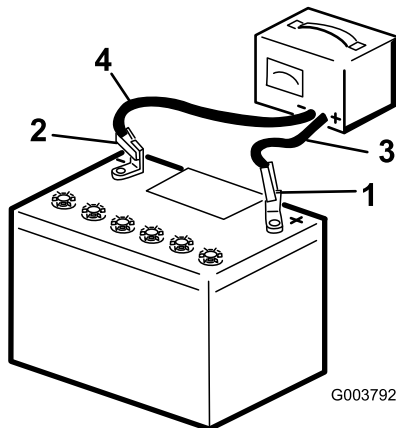

Figure 64
3. Connect the positive lead of the battery charger to the positive battery post (Figure 64).
4. Connect the negative lead of the battery charger to the negative-battery post (Figure 64).
6. When the battery is fully charged, unplug the charger from the electrical source, then disconnect the charger leads from the battery posts (Figure 64).